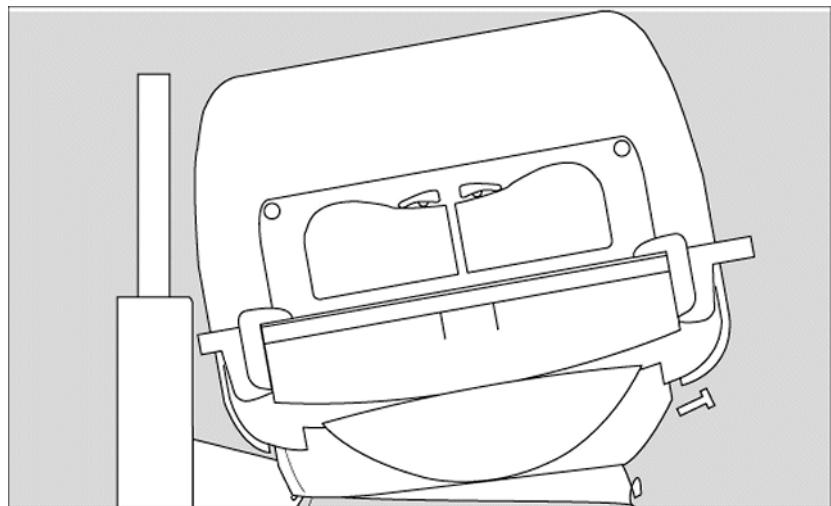

Figure 6 Front view of the Caleo
3. Tilt the bed to the left (Figure 6).